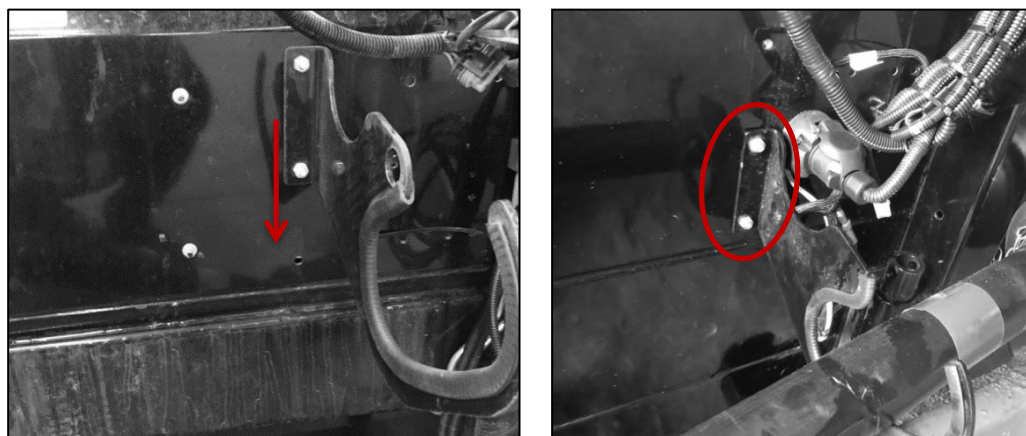

Figure 4: Driveline storage bracket in shipping position (left) and field position (right).
- 4.1. When applicable, driveline storage bracket/s must be moved from the shipping to field position (Figure 4).